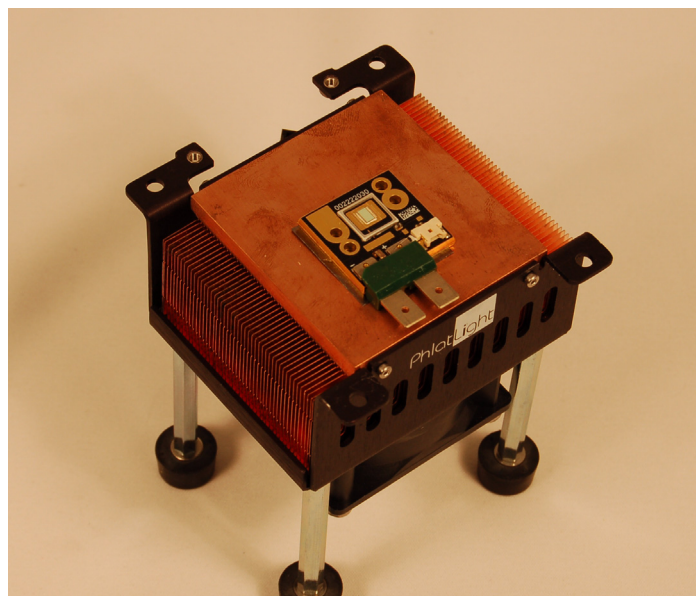

Figure 12: Device aligned on heat sink
3. Carefully place the device on the thermal pad such that the hole patterns match and also the tabs from the leads from the device align well with the solder tabs of the PCB (Figure 12).